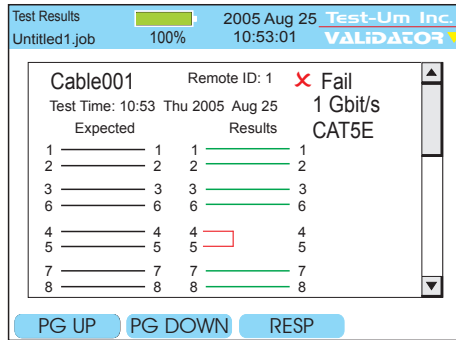
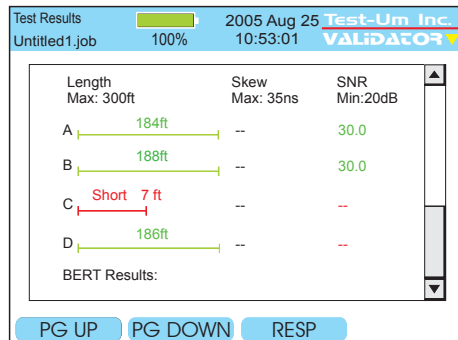

Figure 4.3 Test Results Short on Pair 4 and 5
Figure 4.4 Page down to Display Distance to Short
**Short -** The pair has a low resistance connection between wire pairs or the shield. The wire pairs involved and the distance to the short in feet or meters displays in red on the wiremap screen. Press the PG DOWN soft key (F2) to view the detailed test results. (See Figure 4.3 & Figure 4.4)